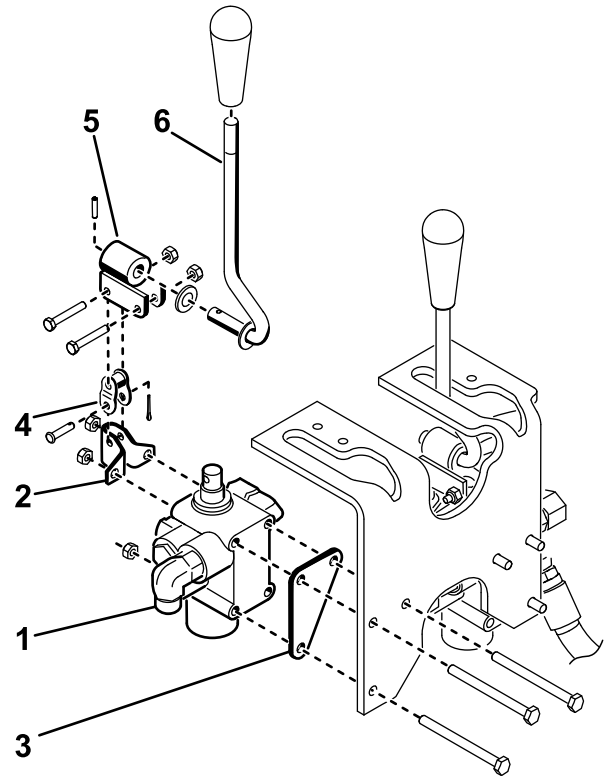

Figure 8
3. Loosely mount the pivot lever assembly to the valve spool and to the offset link with 2 bolts (#10 x 1-1/4 inch) and 2 locknuts (Figure 8).
2. Mount the valve assembly, pivot bracket, and valve plate to the frame with 3 bolts (1/4 x 3 inches) and 3 locknuts (Figure 8). Position the valve plate against the front of the frame member when mounting, and torque the fasteners to 10 to 12 N·m (90 to 110 in-lb).